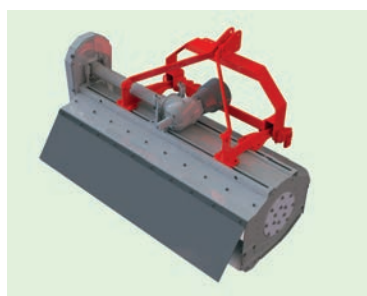

Fig. 1)
With the two front and rear attachment variants (figs. 1 and 2), switching from front to rear attachment (or vice versa) becomes as easy as moving the linkage by loosening 3 bolts. A second PTO shaft is required for flail mowers with PTO drive.
- stiff rear or front attachment (fig. 1)